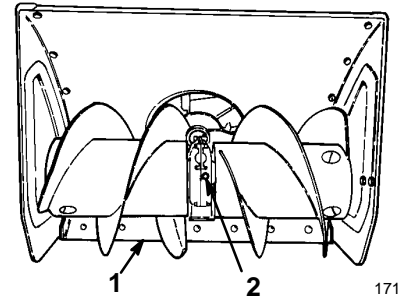

Figure 15
2. Move the snowthrower onto a flat surface and check that the scraper (Fig. 15) is parallel to the ground. If it is not, adjust the scraper; refer to *Adjusting the Scraper and Skids* on page 23.
3. Remove the pipe plug from the gear box (Fig. 15).